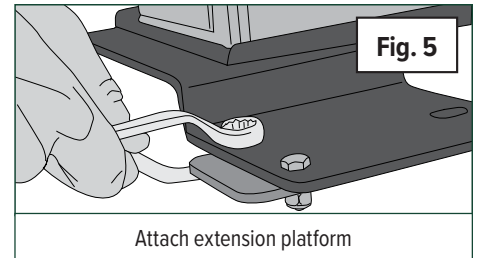

Fig. 5
IMPORTANT: Do not use the large dipstick (Fig 5) or the large yellow plastic "butterfly" cap (Fig6) to measure when filling the engine oil. It is hard to read when the oil is new, and you might over or under fill, resulting in engine damage. Instead, use this simple procedure:
1. **(Fig. 5)** Attach the platform extension under the battery platform and secure it using two 1/4-20 x 3/4 bolts and nylon lock nuts. The bolts should be facing down as shown.